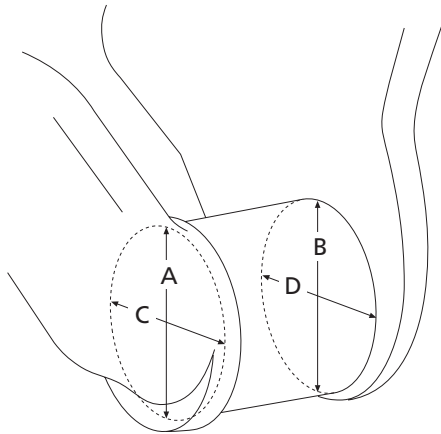

Figure 1.9 Measuring the crank journal for taper and ovality
3. The manufacturer's specifications for the diameter of the main bearings of a diesel engine are 56,980 mm–56,995 mm. The maximum allowed out of roundness is 0,015 mm, and the maximum taper is 0,005 mm. Calculate the taper and out of roundness for the journal if the measurements taken are as in the table below. Refer to Figure 1.9.